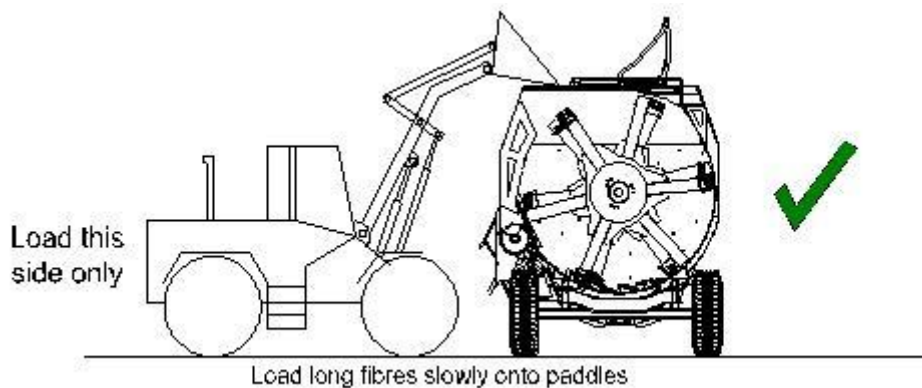

Figure 6: Loading the Keenan Mech-Fiber 400 mixer wagon
- l) Load only from the side indicated – see figure 6 (auger chamber side) using suitable equipment.